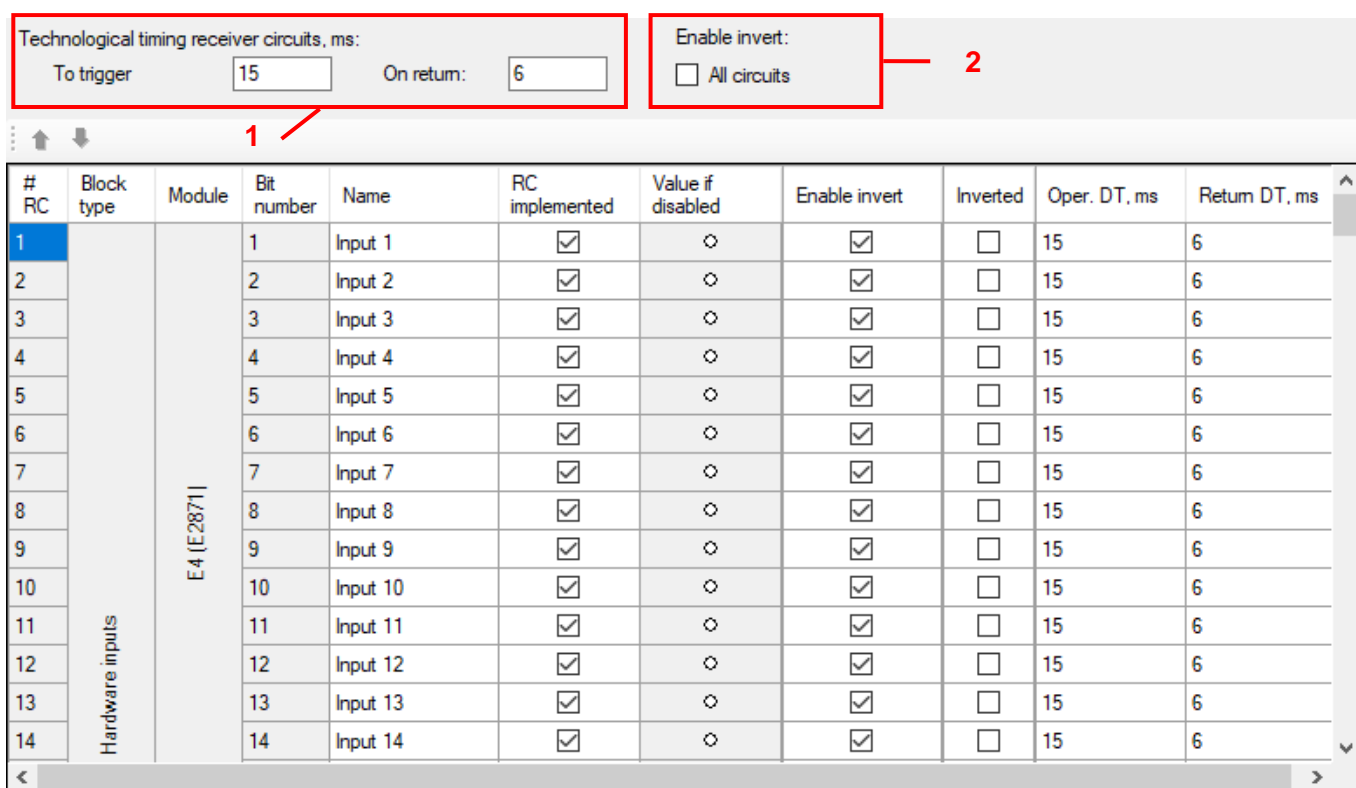

Figure 158 – Binary inputs window
The **Binary inputs** window, device tree menu **Hardware part** → **Binary inputs** (figure 158), is designed for configuring binary inputs of the device (circuits of binary input and virtual input modules).
Allows you to set the total value of time delays for operate and return for all inputs (figure 158, item 1).
Enable inverting (figure 158, item 2): All inputs – when the box is checked, binary inputs of all modules are enabled for inverting.